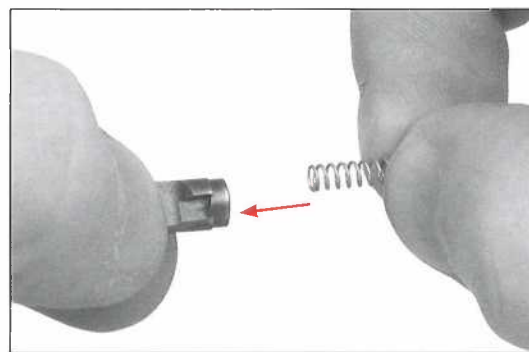

Fig. 204a
- If the spring should become separated from the safety, merely press either end back into its receptacle in the bottom of the safety. Compress the spring fully and turn it ¼ turn counter clockwise. When the spring is reattached, it should be reattached to the safety. If the spring is not firmly attached, it may fall into the recess and not provide proper spring tension to the safety. (Fig. 204a/204b)